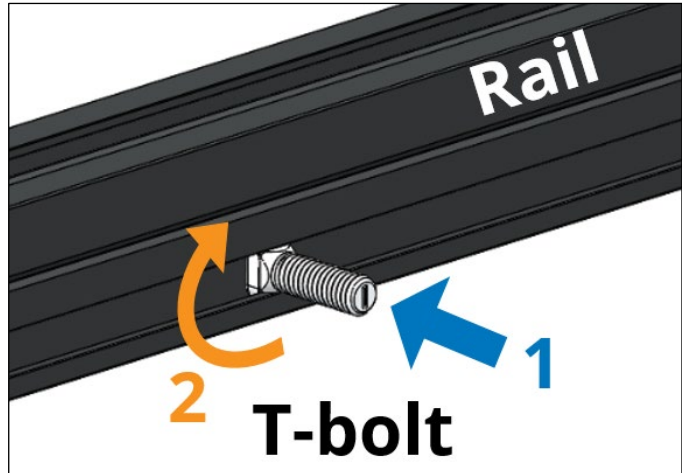

Fig. 7
- Attach the rail to each L-foot by inserting the T-head of the rail bolt into the side channel and then turning it to the right 90° (until you feel it seat) (Fig. 7), then fitting the bolt ends through the slots on the L-feet.